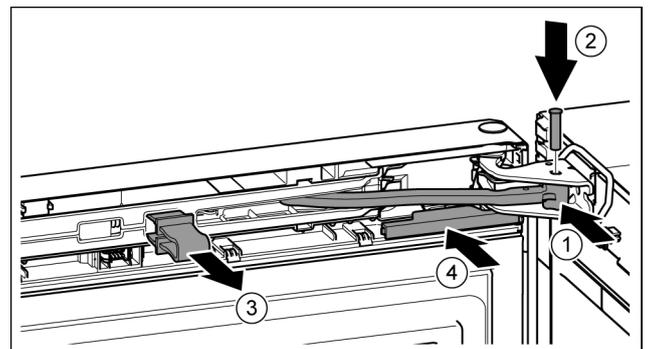

Fig. 22
- ▶ Turn the hinge in the bearing bracket. Fig. 22 (1)
- ▶ Insert the bolt in the bearing bracket and hinge. Make sure that the catch mechanism is sitting correctly in the groove. *Fig. 22 (2)*
- ▶ Remove the locking device. *Fig. 22 (3)*
- ▶ Slide on the cover. *Fig. 22 (4)*